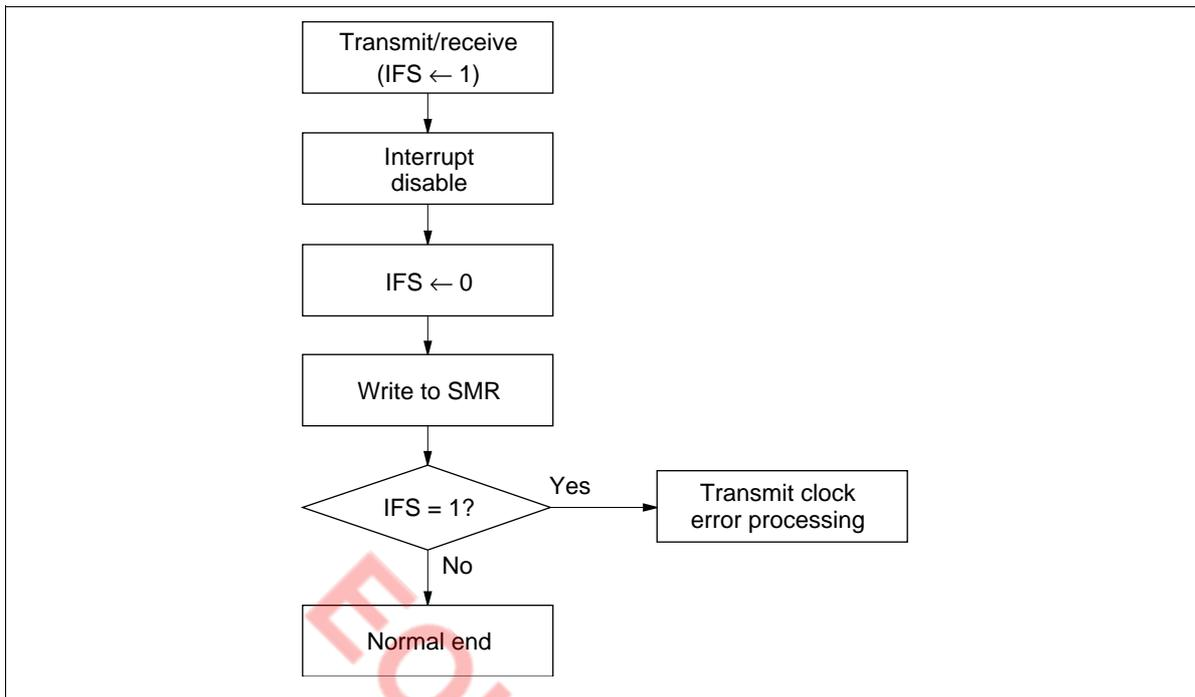

Figure 12 Transmit Clock Error Detection Example
**Transmit Clock Error Detection Example:** The serial interface functions abnormally when the transmit clock is disturbed by external noise. Transmit clock errors can be detected by the procedure shown in figure 12.